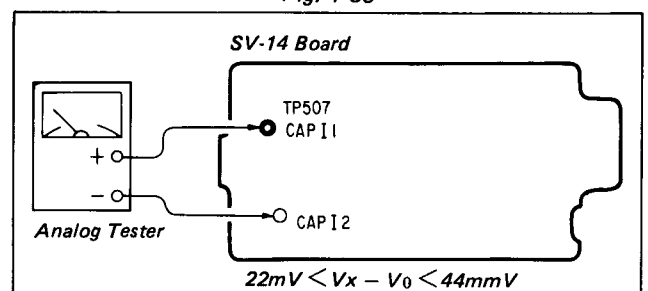

Fig. 1-60
- 6) Measure the voltage (V_0) between CAP I₁ and CAP I₂ on the SV-14 Board using an analog tester. (No-load state) (See Fig. 1-60.)
- 8) Remove the driving gear (B) assembly as instructed in 3) of 1. Removal in 1-3-14.